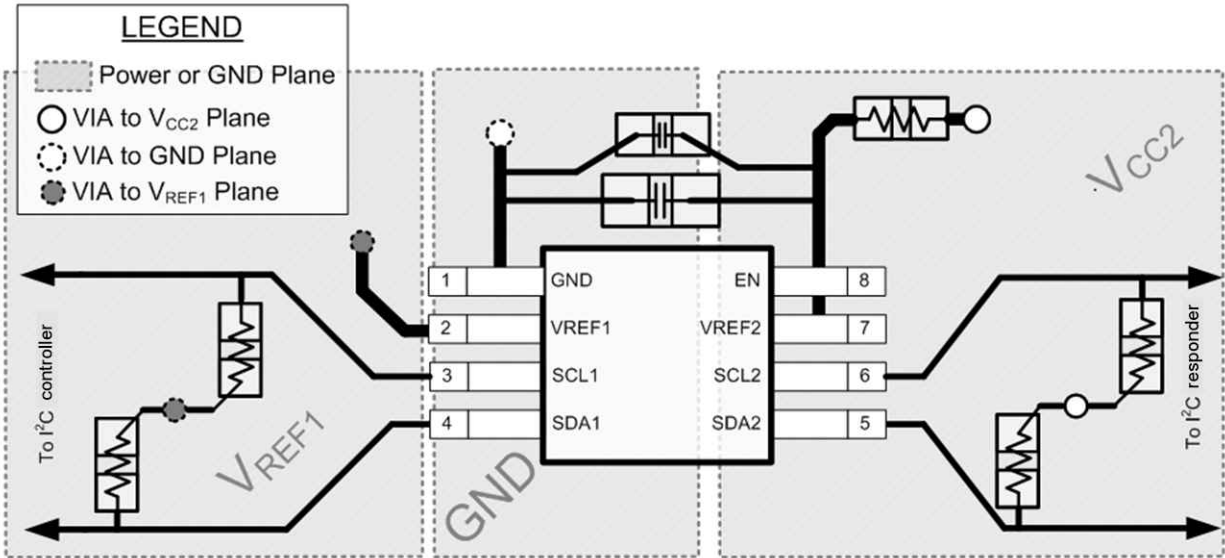

Figure 9-8. Layout Example
In all PCB layouts, it is a best practice to avoid right angles in signal traces, to fan out signal traces away from each other on leaving the vicinity of an integrated circuit (IC), and to use thicker trace widths to carry higher amounts of current that commonly pass through power and ground traces. The 100-pF filter capacitor should be placed as close to  $V_{REF2}$  as possible. A larger decoupling capacitor can also be used, but a longer time constant of two capacitors and the 200-k $\Omega$  resistor results in longer turnon and turnoff times for the TCA39306 device. These best practices are shown in Figure 9-8.
For the layout example provided in Figure 9-8, it would be possible to fabricate a PCB with only two layers by using the top layer for signal routing and the bottom layer as a split plane for power ( $V_{CC}$ ) and ground (GND). However, a four-layer board is preferable for boards with higher-density signal routing. On a four-layer PCB, it is common to route signals on the top and bottom layer, dedicate one internal layer to a ground plane, and dedicate the other internal layer to a power plane. In a board layout using planes or split planes for power and ground, vias are placed directly next to the surface-mount component pad, which must attach to  $V_{CC}$  or GND, and the via is connected electrically to the internal layer or the other side of the board. Vias are also used when a signal trace must be routed to the opposite side of the board, but this technique is not demonstrated in Figure 9-8.